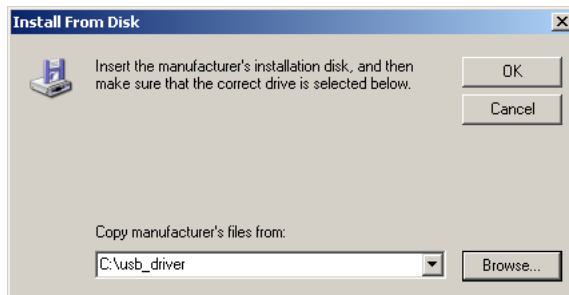

Figure 11. Install From Disk Window
8. Select **powerxpert.inf** and click **Open**. The folder containing the powerxpert.inf file displays in the **Copy manufacturer's file from** box (see Figure 11).